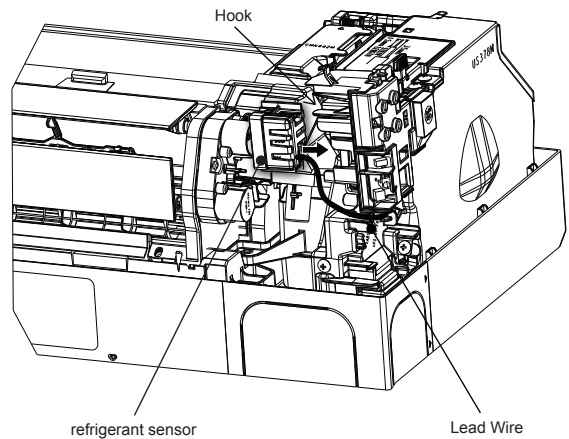

Fig. 4
- 5) Insert the refrigerant sensor and fix it with the hook. (Fig. 4)